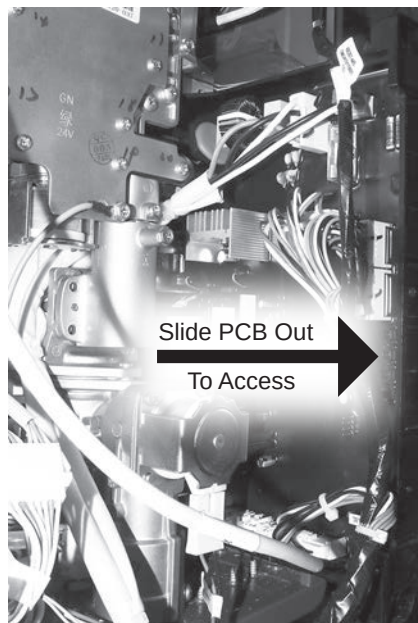

Figure 35 - Accessing PCB
- 11** Gently slide PCB out from water heater far enough to access the wiring harnesses shown in Figure 35.